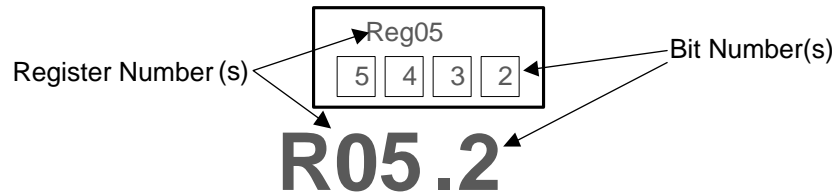

Figure 29. CDCM6208V1F Register Reference Format
Figure 29 shows the method this document employs to refer to an individual register bit or a grouping of register bits. If a drawing or text references an individual bit, the format is to specify the register number first and the bit number second. The CDCM6208V1F contains 21 registers that are 16 bits wide. The register addresses and the bit positions both begin with the number zero (0). A period separates the register address and bit address. The first bit in the register file is address 'R0.0' meaning that it is located in Register 0 and is bit position 0. The last bit in the register file is address R31.15 referring to the 16th bit of register address 31 (the 32nd register in the device)